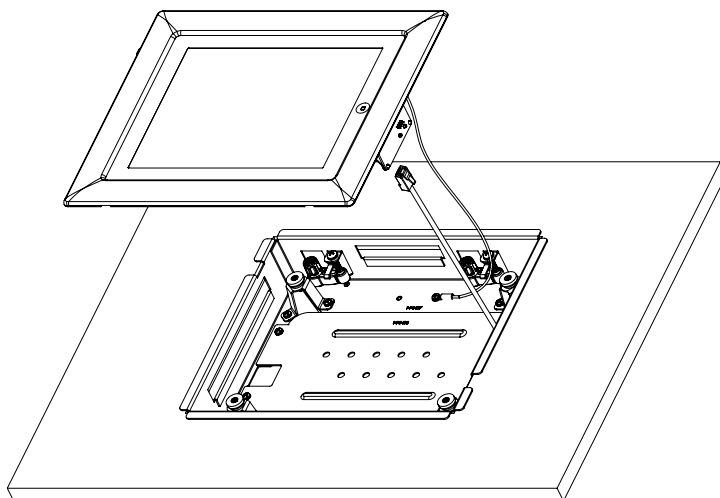

Figure 8: Attaching Cat5/RJ45 cable.
12. Connect the Cat5 cable from the wall to the iPad connector board as noted in figure 8.